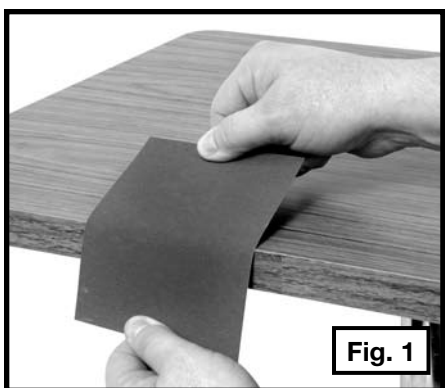

Fig. 1
- Soften the stiff sandpaper by pulling it over the 90° edge of a table or other straight edge (Fig. 1). Concentrate on softening the edges that will be clamped.